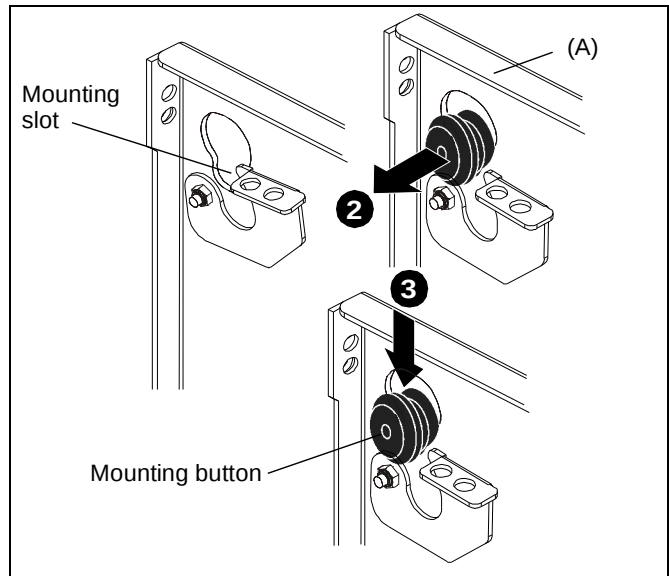
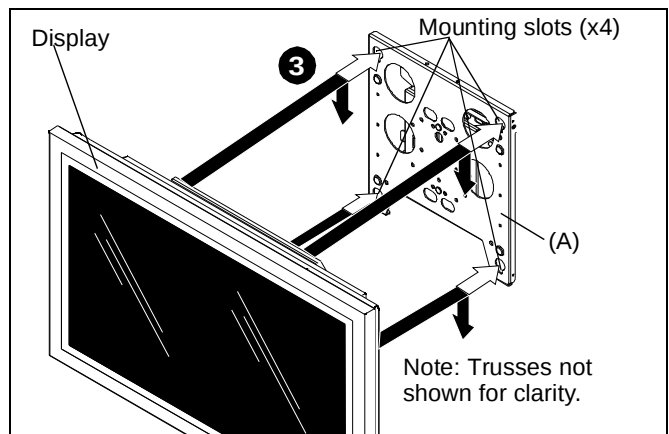

Figure 10
Figure 11
1. Attach interface bracket (G) to display using the instructions included with the interface bracket kit.
2. Lift and maneuver display such that all mounting buttons fit into mounting slots on TPS faceplate (A). (See Figure 10)
3. Lower display firmly into place. Ensure each button has fully seated in its mounting slot. (See Figure 10) and (See Figure 11)